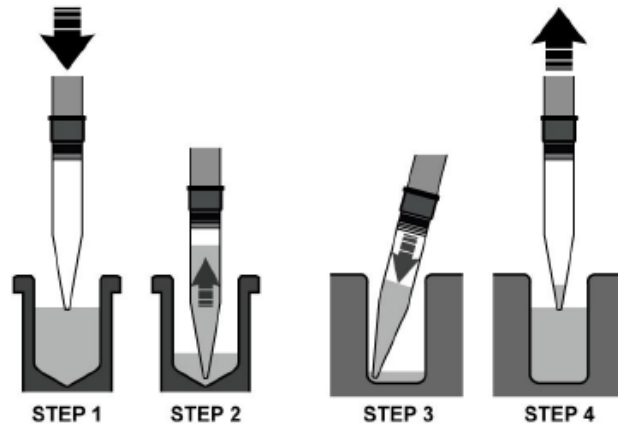

Figure 23. Reverse pipetting.
- Add Gel-Dye solution to chip wells 3, 7, 8, and 10 using a Reverse Pipetting Technique as shown in Figure 23.